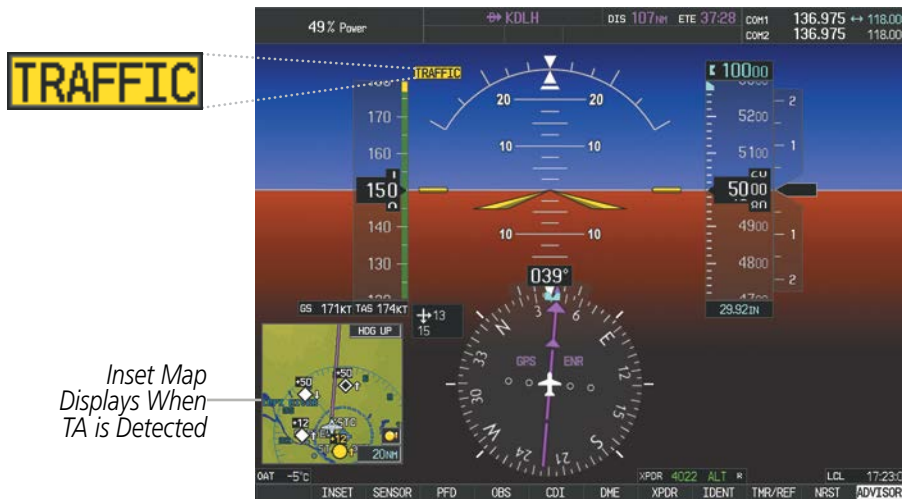

Figure 6-172 Traffic Annunciation (PFD)
- A TRAFFIC Annunciation appears at the top right of the airspeed on the PFD, flashing for five seconds and remains displayed until no TAs are detected in the area (Figure 6-172).